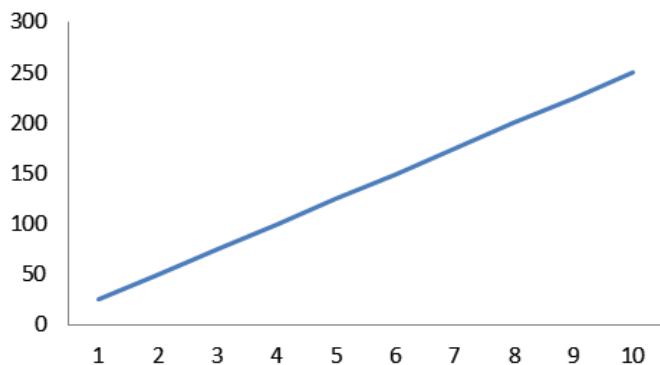

Figure 1. A linear relationship.
- **Calibration** – To accurately measure yield, the yield monitors have to perform calculations, since an electronic sensor is being used to measure a physical activity (for example, a force exerted on a plate) and translate that into a measurement of mass. The relationship between the measured observation and crop yield is called a calibration curve. Calibration curves most often are linear – an increase in force measurement means an increase in yield. Figure 1 show an example of linear relationship between two variables.